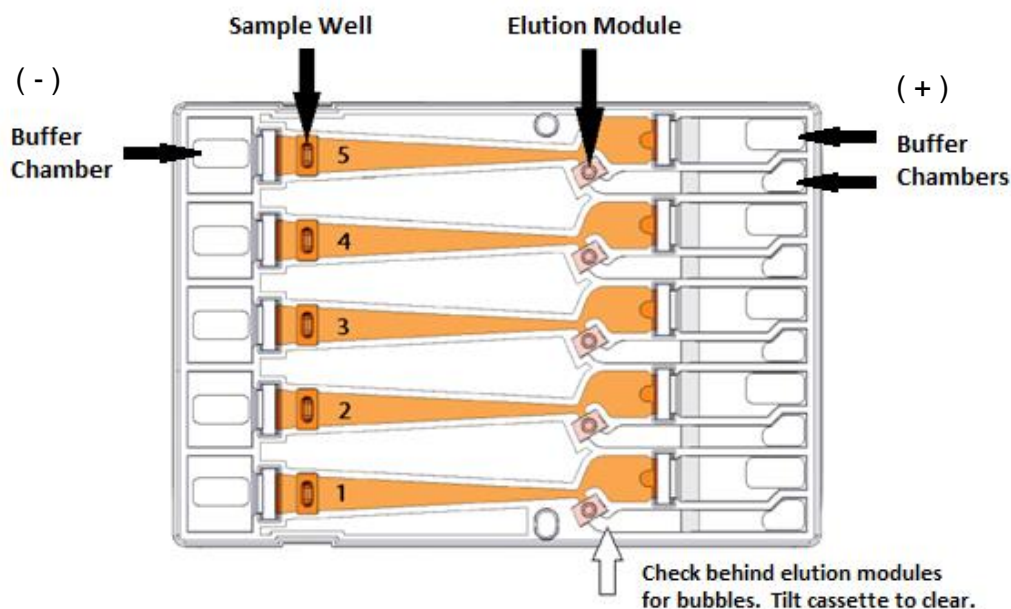

Figure 10.4. A schematic of a Gel Cassette.
1. **Dislodge bubbles from behind the elution wells.** Return the cassette to the right-side up position. Tilt the cassette, sample well side down, to release any trapped bubbles behind the elution modules into the (+) buffer chambers. Gently tap the cassette if necessary. **Figure 10.4**, below, shows location to check for bubbles.
2. **Place Cassette into the Pippin optical nest.** The cassette should be placed into the nest in the orientation shown in **Figure 10.4**, above, with the sample wells to the left side of the nest. When inserting the cassette into the nest, keep the (-) buffer chambers tilted down so that the bubbles in the elution reservoirs won't be trapped behind the elution modules.